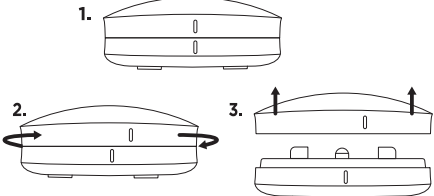

FIGURE 6
2. Once the controller is ready to add your device, remove the top cover of the sensor (see figure 6).
1. Remove the top cover (see figure 6).